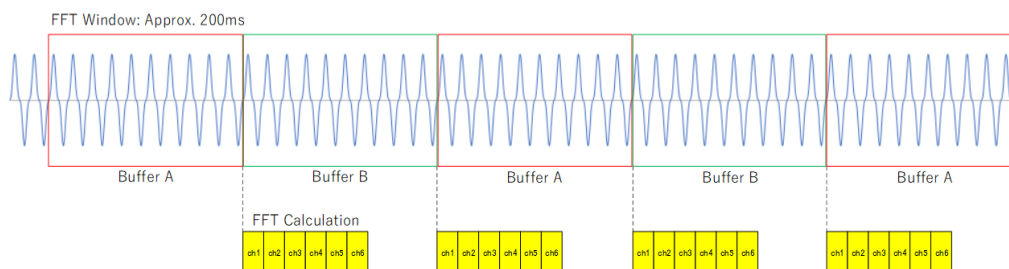

Figure 5. no-gap-no-overlap processing, which is a requirement for measurement instruments specified in IEC61000-4-7
repeatedly. When one surface is full, FFT is executed using the data of that surface. Since the buffer has two surfaces, the current data can be continuously captured on one surface while the data on the other surface is used for FFT calculation. This prevents data from being missed. This process is required to cause no gaps or overlaps between windows. (Figure 5)
The WT5000 can provide measurement with no gaps between windows because it uses an optimum calculating device for 32,768 point FFT and the processing has been devised to be completed within the time frame. (Figure 5)
*1) : 5.5.1 Grouping and smoothing Expression (8)
*2) : 5.5.1 Grouping and smoothing Figure 5